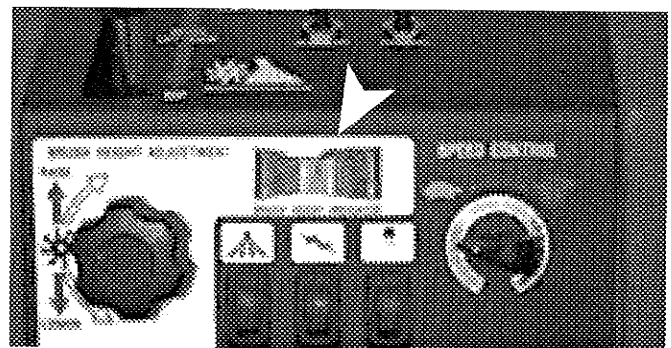

FIG. 6
5. Adjust brush height properly: View Brush Height Indicator while operating and turn Brush Height adjustment knob until the indicator needle is positioned in the center of the meter. (Figure 6)